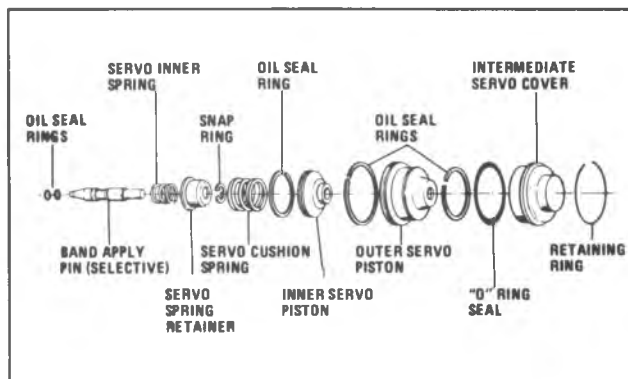

Fig. 7A-144A—Intermediate Servo Exploded
2. Install anchor pin, stem end first, making sure stem locates in hole of intermediate band lug (Fig. 7A-143A).
Intermediate Servo Piston Assembly (Fig. 7A-144A)